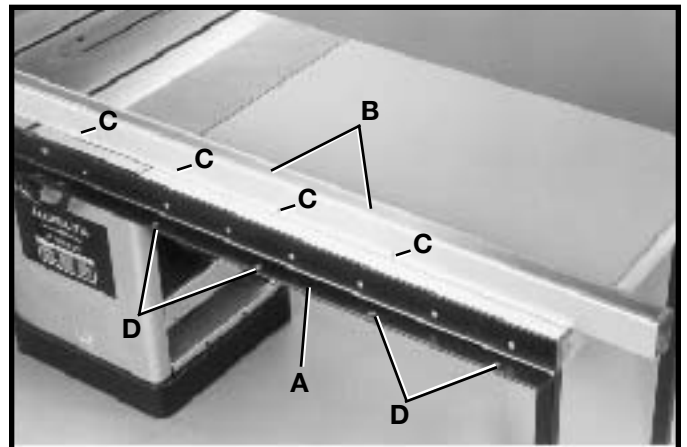

Fig. 21
1. Lay the guide tube (B) Fig. 21, on the saw table as shown, and line up the threaded holes (C) on bottom of guide tube (B) with the through holes (D) on the front rail (A).